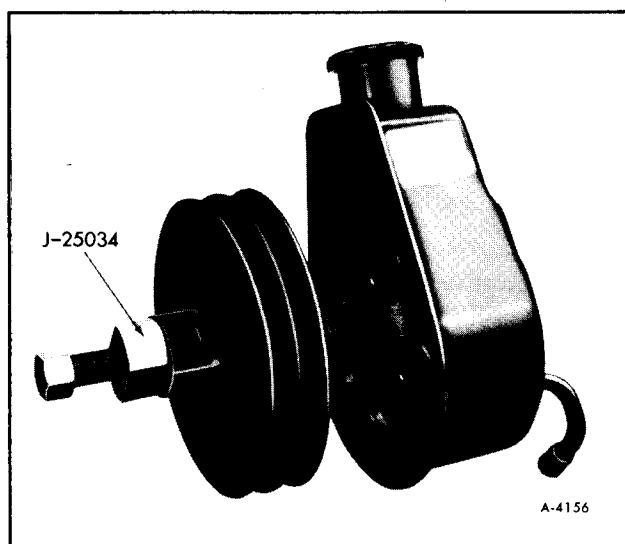

Figure 8—Pulley Removal - Special Tool J-25034
6. Remove pulley from shaft using puller tool J-25034 (figure 8).